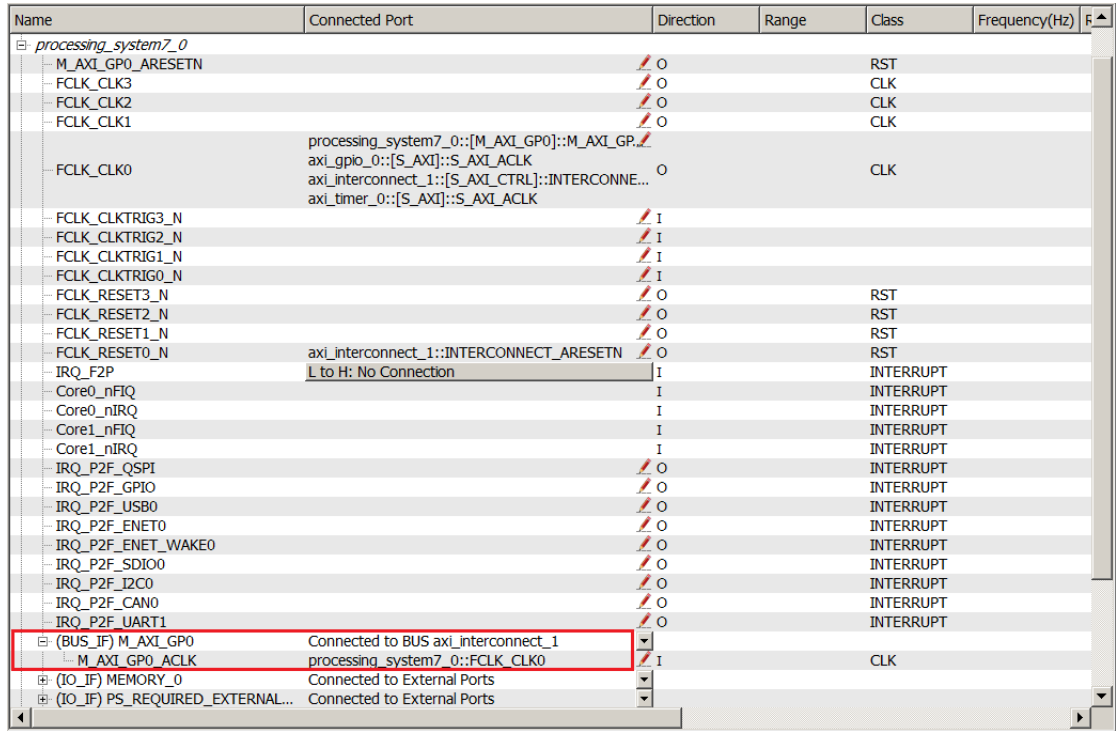

Figure 3-3: Processing_system7_0 Expanded and M_AXI_GPO_ACLK Connected
16. Collapse all IPs and expand `processing_system7_0`. If the following port connection is not made, do it now. It should look like Figure 3-3.